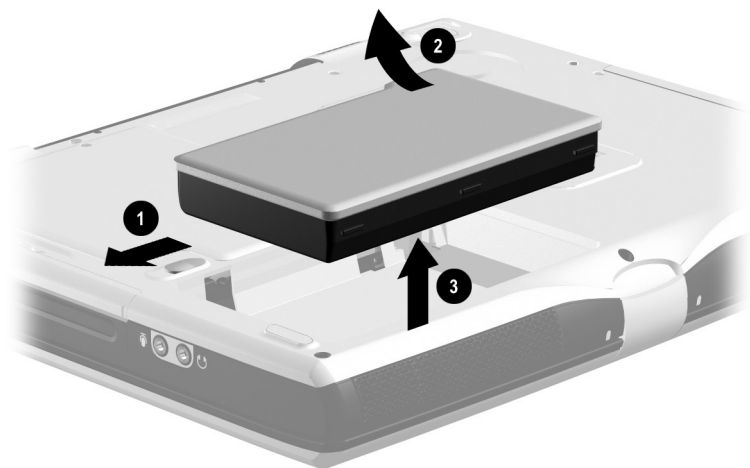

Figure 5-2. Removing the Battery Pack
- b. Slide and hold the battery release latch **1** toward the left side of the computer. The back edge of the battery pack rises up (Figure 5-2).